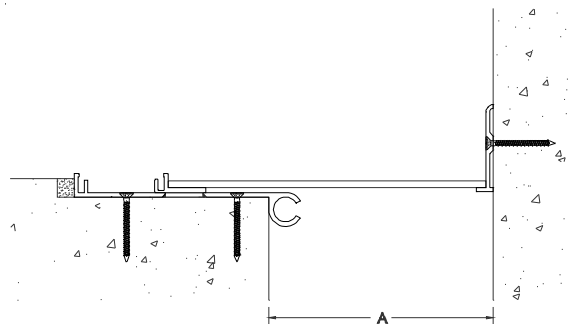

Figure 12
**STEP 15.** Using the anchors provided by the factory, attach the cover plate to the wall, see Figure 12.